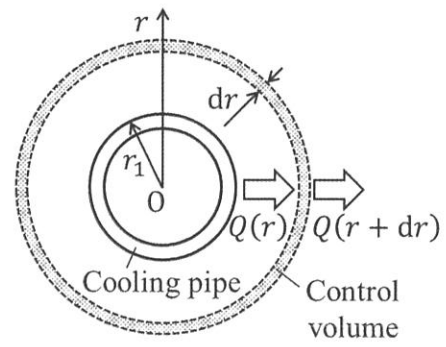

Figure 1-3
- (1) Figure 1-3 is a view of the cooling pipe from the z -axis direction. Consider the control volume having the infinitesimal thickness dr and the unit length along the center axis as shown in Figure 1-3. Express the heat transferring into the control volume $Q(r)$, including the thermal conductivity λ and the temperature T of the water.
- (2) The heat balance of the control volume can be expressed as Equation (1.1) using $Q(r)$. Obtain the unsteady heat conduction equation for $T(t, r)$, by substituting $Q(r)$ in Equation (1.1) with the expression obtained in Question (1).